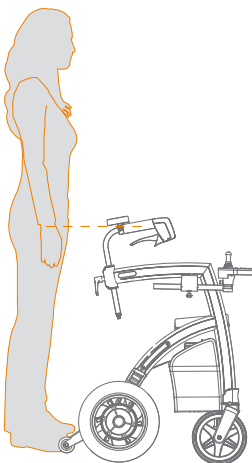

Figure 18: Determine the correct height.
Setting the correct height (**Figure 18**) is crucial for an optimal use of the Rollz Motion Electric. The height can be adjusted in between the minimum and maximum positions. This way the Rollz Motion Electric can easily be adapted to individual needs.
- a. To determine the correct height, stand between the Rollz Motion Electric handles with your arms hanging near the body. The handles should be at the height of your wrists (**Figure 18**).